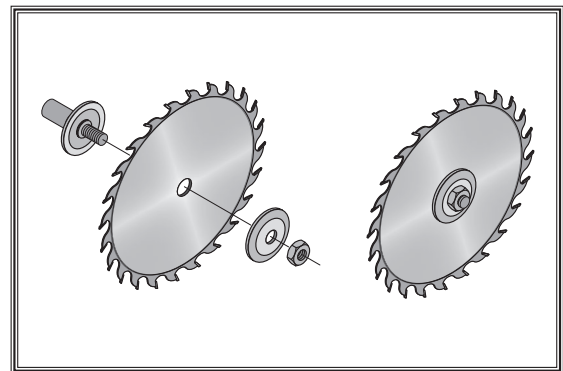

Figure 45. Blade installation.
6. Re-install the arbor flange and the arbor nut (see **Figure 45**), and tighten them against the blade with the wrenches included with the saw. DO NOT over-tighten.